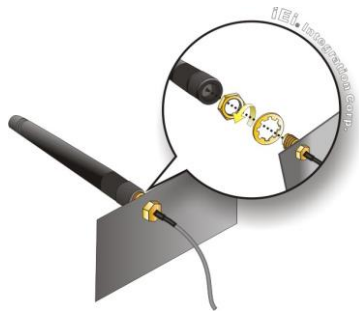

Figure 3-9: Securing SMA Connector and External Antenna Installation
Step 9: Install the external antenna (Figure 3-9).